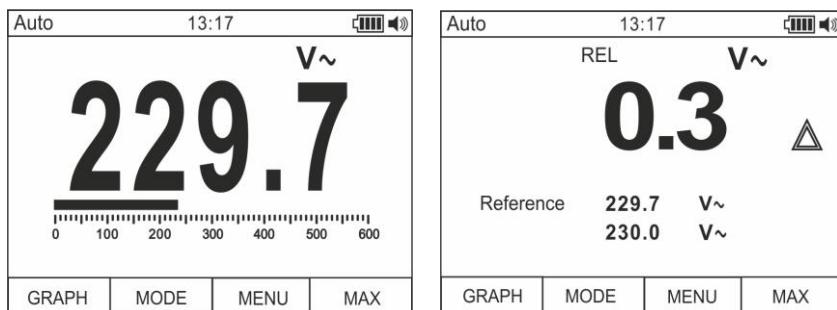

Fig. 5: Relative measurement
1. Press and hold the **HOLD/REL** key to enter relative measurement (see Fig. 5 – right side). The message “REL” and symbol “Δ” appear on the display.